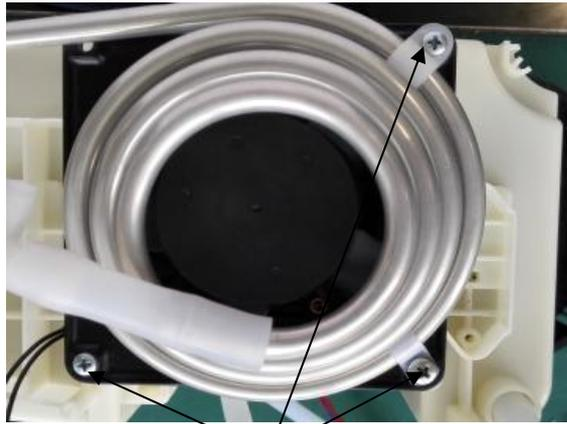

Figure 17
- Ø Cut out the buckles on the in&outlet-end of the condenser pipe, pull out the pipeline, take away the condenser pipe & fans . Figure 17 ,18 , 19 .